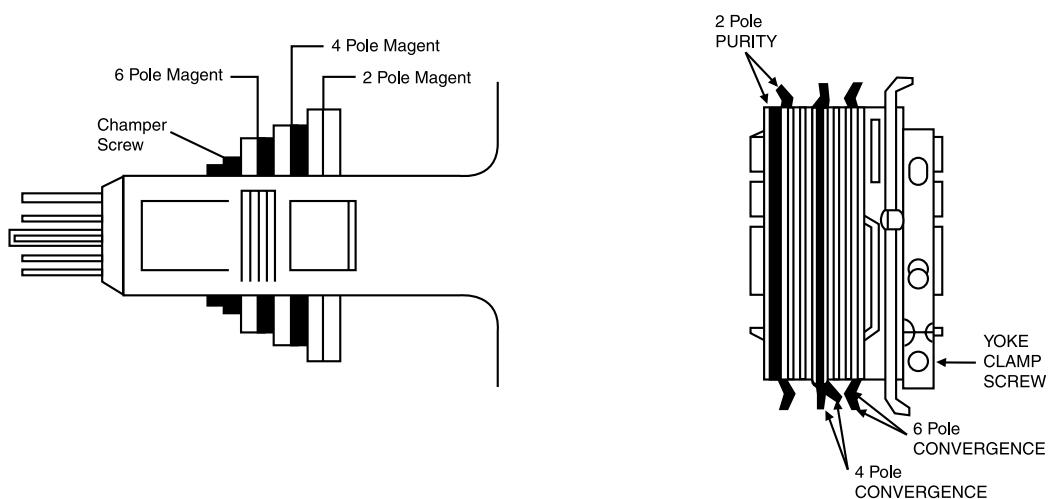

FIG. B-1 CONVERGENCE MAGNET ASSEMBLY
3. Plug the convergence yoke into the CRT and set it as shown in Fig. B-1.